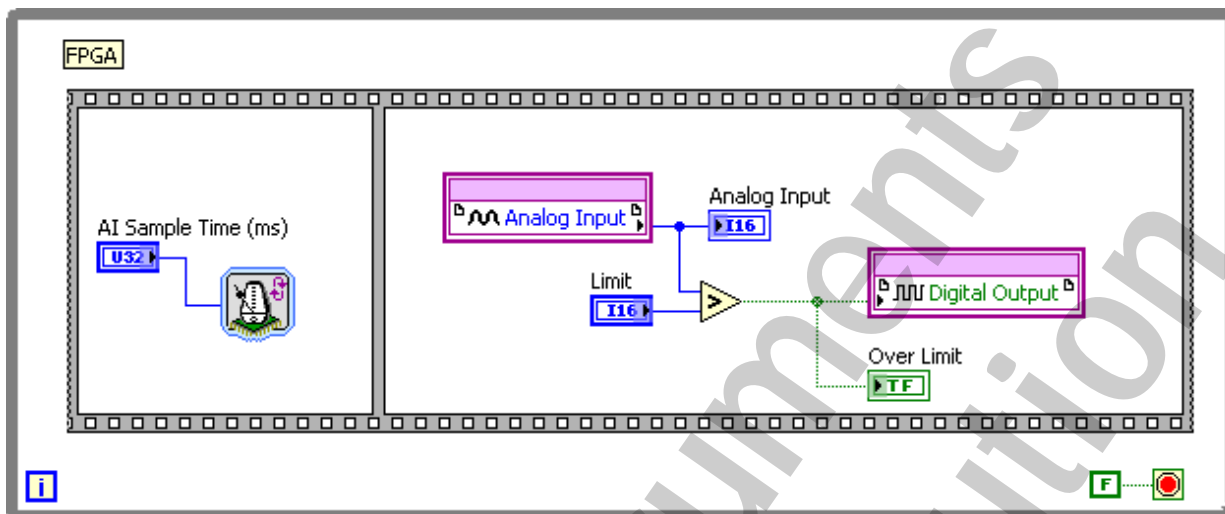

Figure 5-2. Analog Input Timing Block Diagram
6. Create the block diagram shown in Figure 5-2 using the following items: